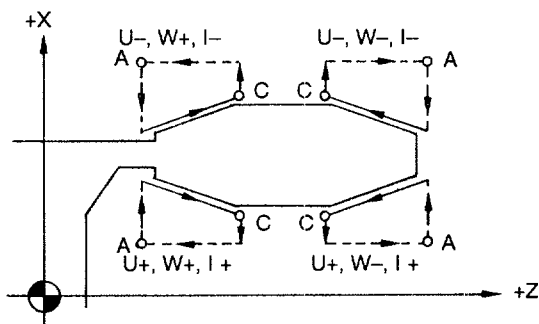

Fig. 4.55 Four Patterns
- For the commands specified in the G71 to G76 cycle, it is possible to specify the symmetric patterns as shown in Fig. 4.55. With G71 to G73, this is specified by the direction the finishing shape program in reference to point A. With G74 to G76, four patterns can be specified by the commands position of point (X, Z) or (U, W) for point A.